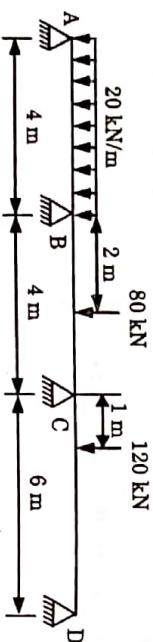

Fig. 2.
- b. Draw the bending moment diagram for the continuous beam shown in Fig. 2 using moment distribution method.  $EI$  is constant.